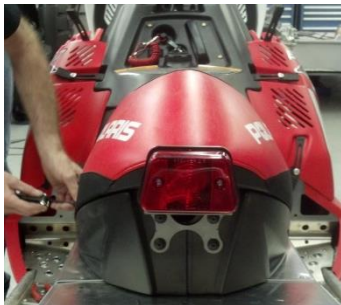

Fig. 1
3. Install taillight on relocation bracket using existing mount nuts for seat base. Orientation must match Fig. 1 to ensure proper wire routing.